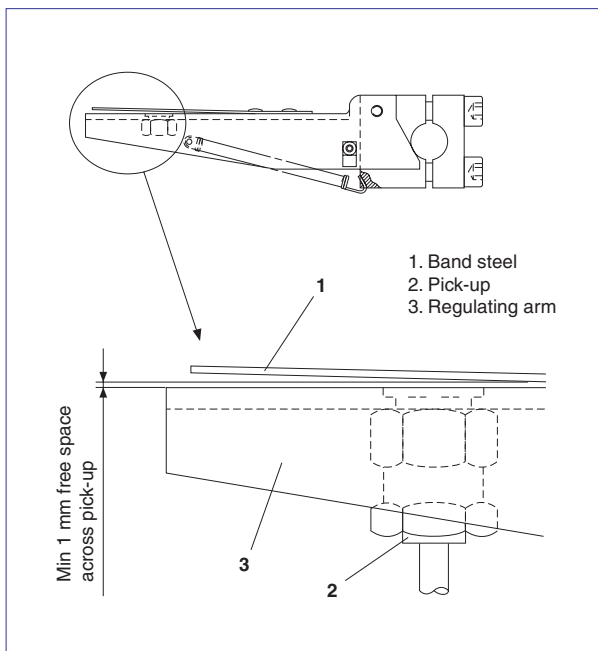

Fig 1 Check of free space
- 1) Check that the free space between the pick-up and the band steel on the regulating arm is min. 1 mm, see fig 1.